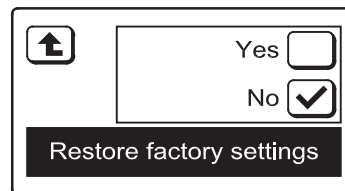

FIG. 78
5. Press the RESTORE FACTORY SETTINGS button and the display will change to show the **Restore factory settings** screen (See Figure 78).